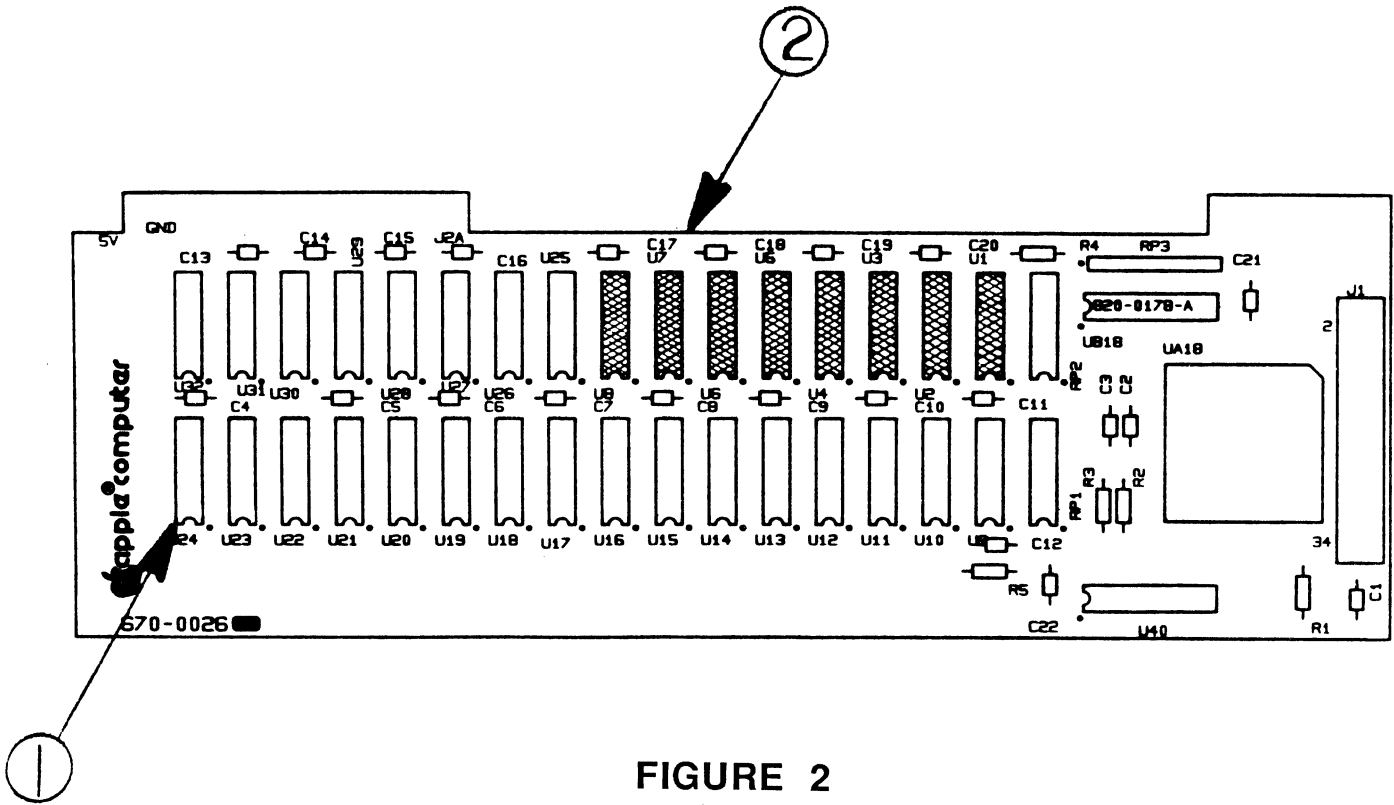

FIGURE 2
□ APPLE IIc – MEMORY EXPANSION CARD (Figure 2)
Note: The eight ICs that are shadowed in Figure 2 are soldered to the Memory Expansion Card. The twenty-four sockets on the card can be filled with 256K RAM ICs for memory expansion.